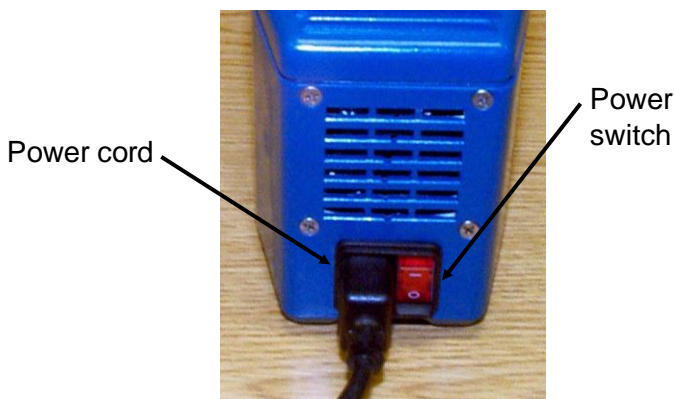

Figure 2-2
6. Plug the female end of the power cord into the receptacle on the back of the particle generator. Plug the male end into a grounded wall outlet and turn on the power to the generator. The power switch is located next to the power cord receptacle. See Figure 2-2.